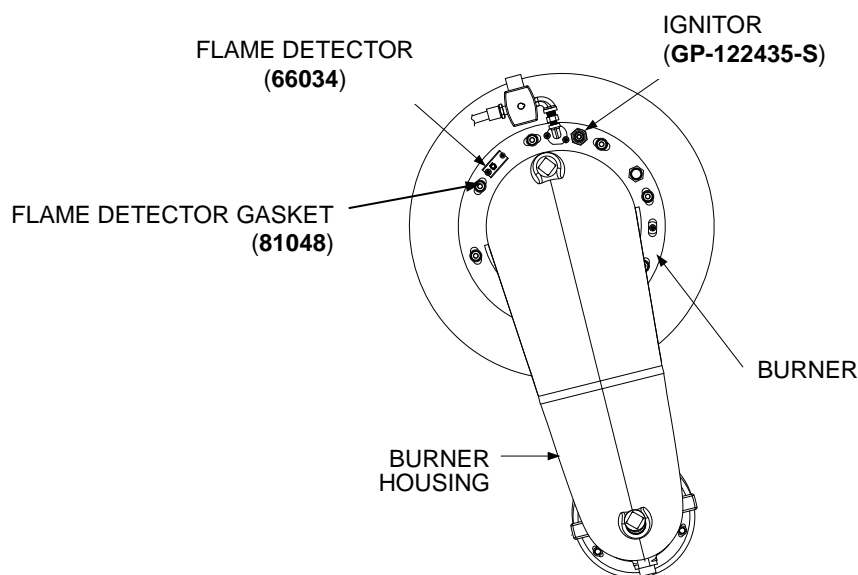

Figure 7. Burner Assembly Igniter & Flame Detector Locations
1. Refer to Figure 7 to locate the flame detector installation location.